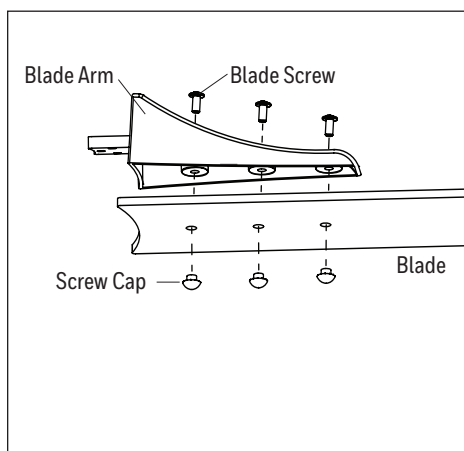

Figure 5.4
4. Partially insert three blade screws through the blade arm and the blade. Secure each blade screw with a blade screw cap, starting with the one in the middle. Repeat this step for the remaining blades and blade arms (Figure 5.4).